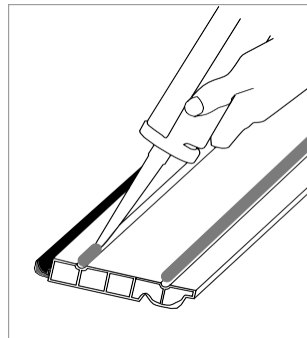

Figure 2
5. Lay the first row in a straight line and click the head ends together. Put the short side of the profile into head end of the previous panel and press the panel downwards. It is recommended to use a hand roller for connecting the head ends so that the joint fits securely. Continue laying the first row in the same way until you get to the last piece. Figure 2.
- ▶ **1.2** Lay the skirting board on its face and apply a bead of SilverSil Never Nails or another contact building adhesive down each adhesive channel. Place the skirting board in position pushing firmly back to the wall. See Fig 2.